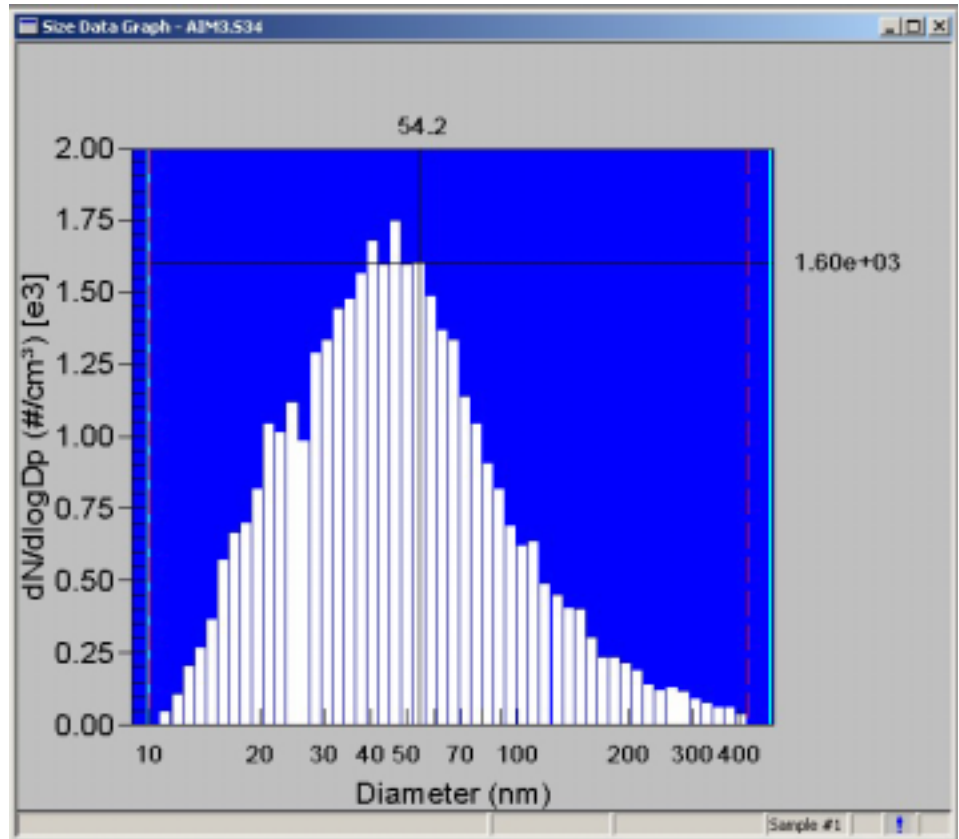

Figure 7-3
2. Press the left mouse button to display the values. Figure 7-3, shows how the data values would be displayed for a Model 3034 SMPS sensor (diameter and counts).